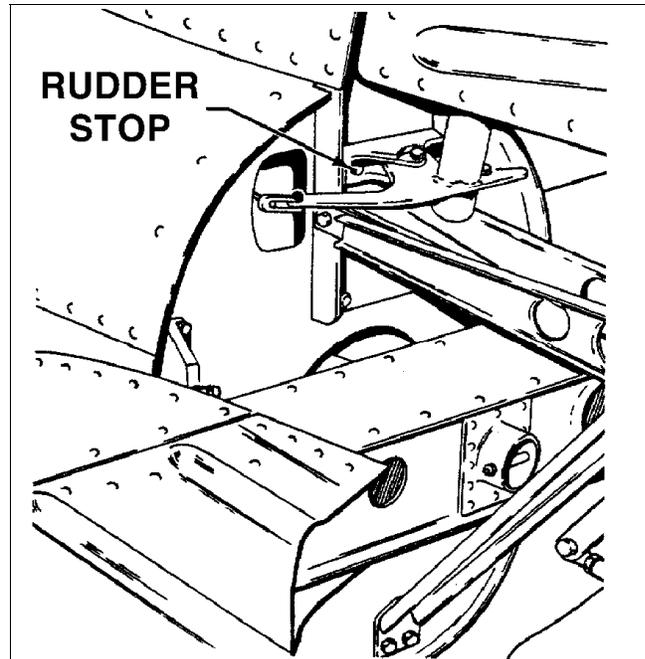

Figure 27-14. Rudder Travel Adjustments
- d. Should rudder travel be incorrect, indicated by showing a gap between tool and any part of control surface, remove tail cone fairing and the reset stops to obtain correct rudder travel . (Refer to Figures 27-14 and 27-15.)